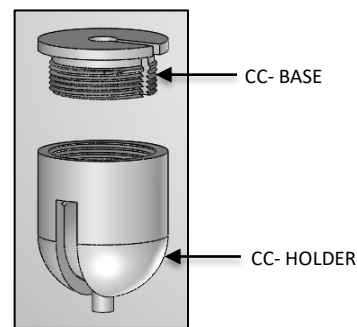

FIG. 22 - CEILING COUPLER ASSEMBLY
8. Dis-assemble the CEILING COUPLER into two components CC-BASE, CC-HOLDER as shown in FIG. 22 below.